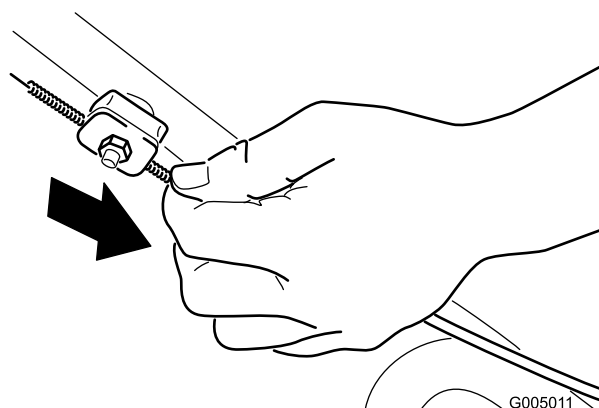

Figure 30
2. Pull down the cable jacket (toward the mower) until there is no slack in the cable (Figure 30).